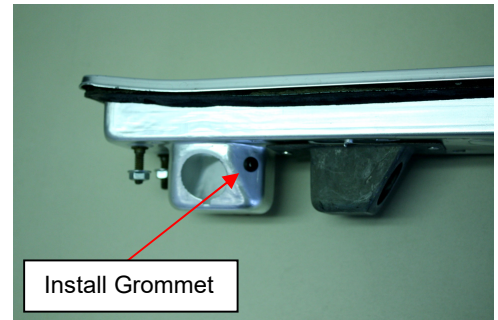

Figure 2
5. Drill a 3/16" diameter hole near the top of the bulb socket cavity and deburr hole. (See Figure 2)